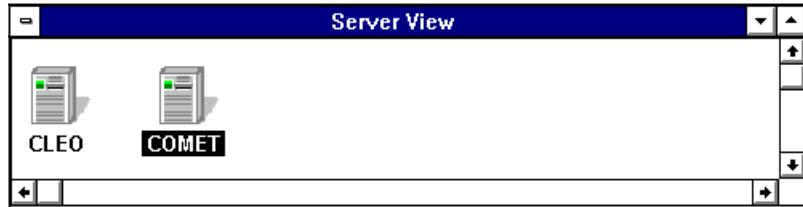

Figure 8-1. Server Icons
- 4 Click the icon of the server whose arrays and spares you want to configure, as shown in Figure 8-1. You can identify the server by the name that appears beneath it.